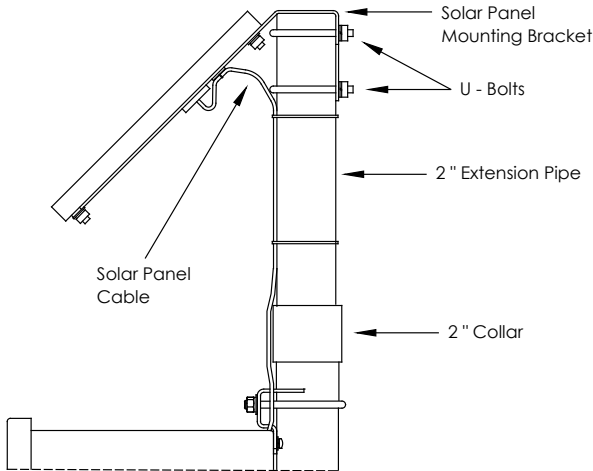

Fig. 10: Solar panel mounting
1. Attach 2-inch pipe collar and pipe extension to the top end of the OEU mounting pipe or install mounting pipe (Fig. 10).
After installation of the G4 EX, and with the communications path complete, the user needs to enter the appropriate communication parameters. In most instances, the G4 EX was shipped with COMM 1 set up for Totalflow (TF) Remote Protocol. If not, select the protocol using the Entry mode within PCCU (Figure 10). The protocol must be selected first for the appropriate communication parameters to be displayed. A blinking telephone poll symbol "☎" in the annunciator position A8 (default) indicates that the COMM 1 port is active. The symbol may not be visible, if the baud rate is above 2400. See the Alarms and Status Codes section for a full description of the alarm characters, locations and descriptions.